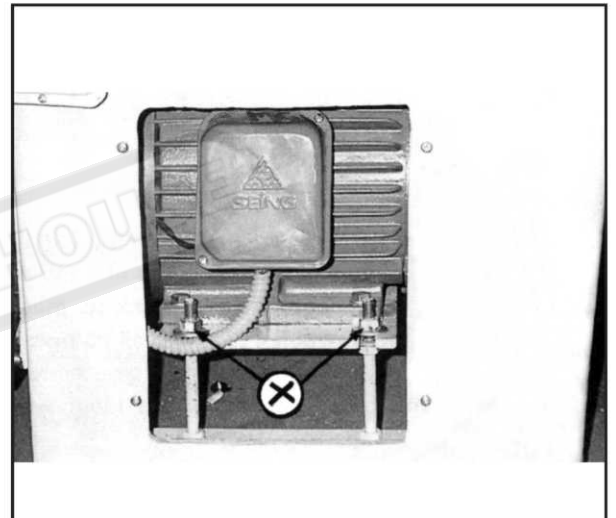

Fig.22
To alter belt tension, remove the cover plate in back of headstock plinth and adjust the two screws (X) on the hinged motor platform (Fig.22). Ensure that the Motor axis is kept level and both pulleys are aligned correctly.